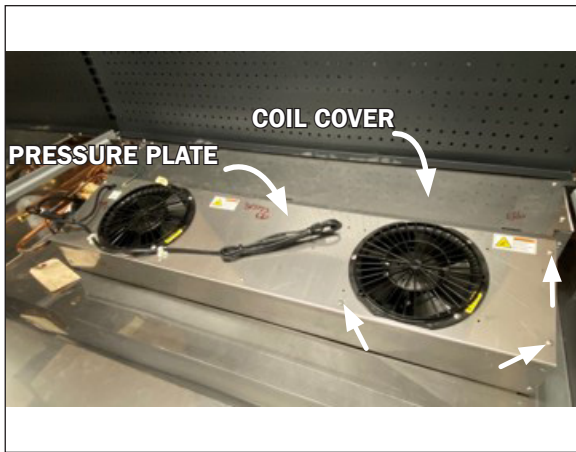

Fig. 19 Pressure plate, coil cover, and screws
3. To access the underside of the fans first remove the screws on the top ends and front sill of the pressure plate cover (Fig. 19). Lift the pressure plate by use of the provided lift handles (Fig. 19). There are hinges shared between the pressure plate and coil covers. **Note: It is recommended that more than one person lift the pressure plate.** The topside of pressure plate will rest against the topside of the coil cover, exposing the underside of the pressure plate and fans (Fig. 19).
2. Disconnect the fan cord before accessing the screws. Remove the top two screws at both ends of the coil cover (Fig. 19), as well as the screws from the top ends and front sill of the pressure plate cover (Fig. 19). **Be sure to save the removed screws for reassembly.**